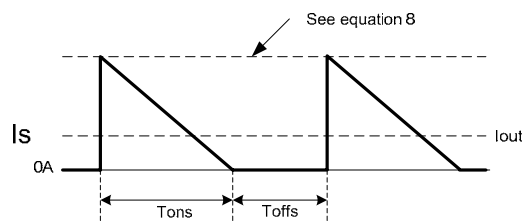

Figure 10. Secondary Current Waveform
The AP3967 is designed to work in constant current (CC) mode. Figure 10 shows the secondary current waveforms.